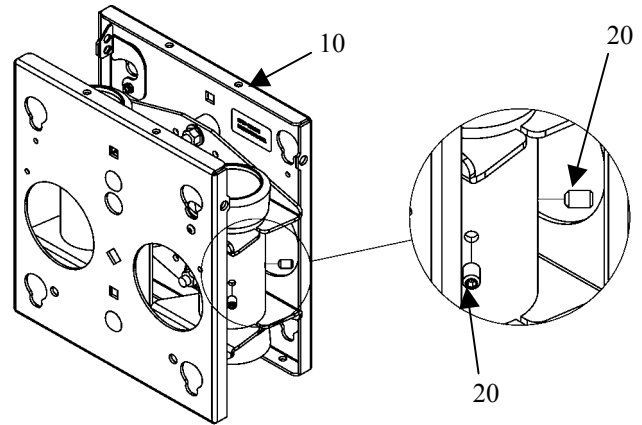

Figure 2. Insert Setscrews Loosely (4 Places)
1. Using the 5/32" hex key (30), insert two setscrews (20) into each collar on the MAC-143 (10). See Figure 2.